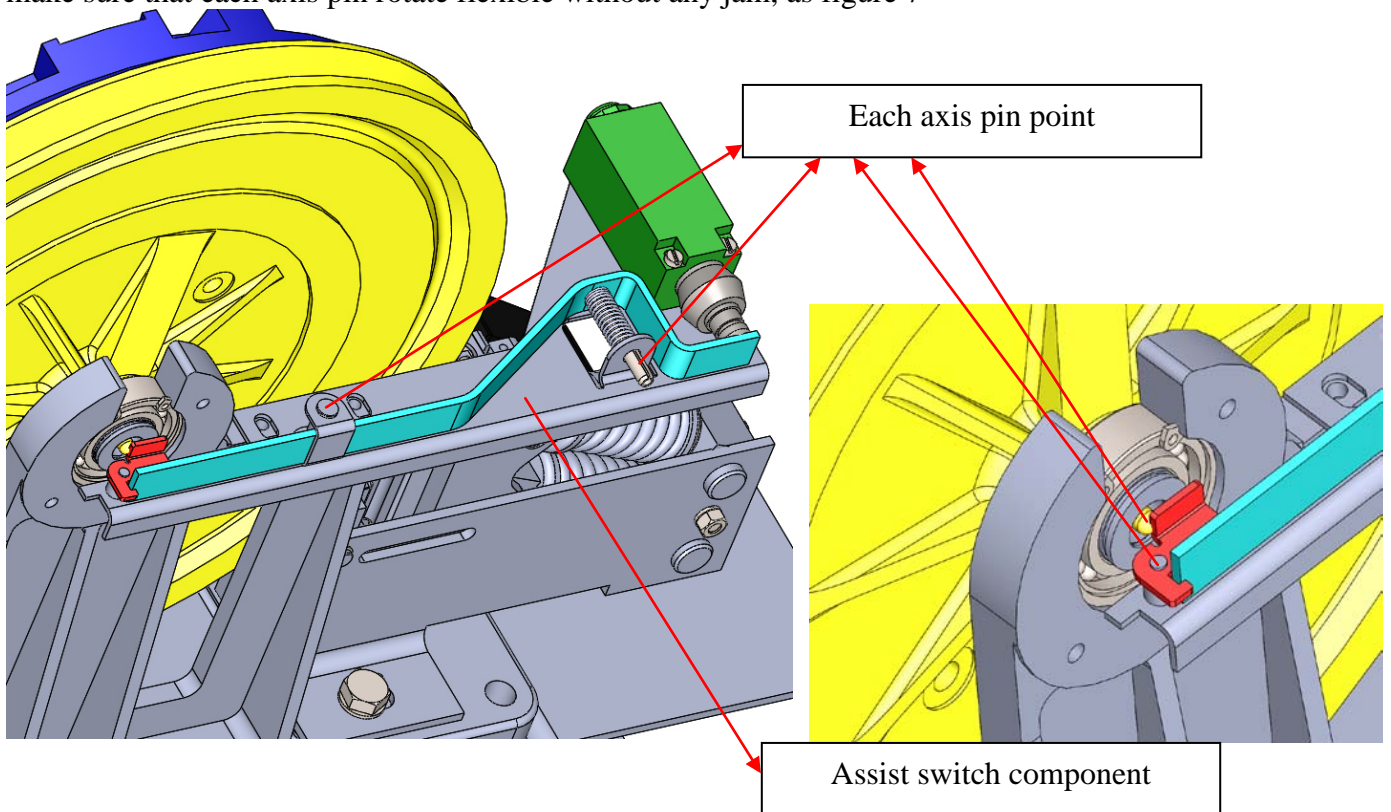

Figure 7
3.1.2.3 Clean up the assist switch component with brush and then lubricate each axis pin point, make sure that each axis pin rotate flexible without any jam, as figure 7